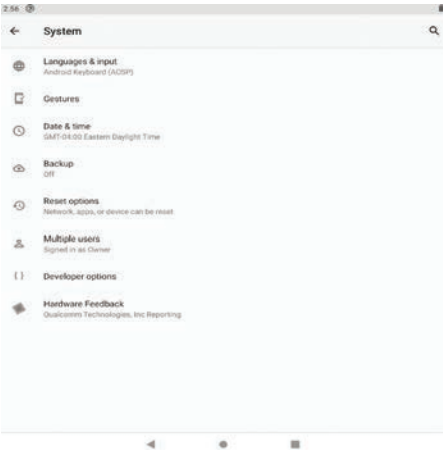

Figure 62. Advanced
- 3. Tap on System, and then on Advanced, (Figure 62).